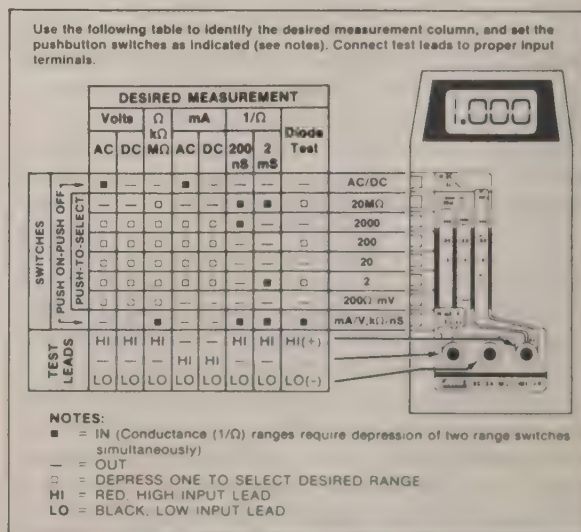

Figure 2-6. Selecting a Function and Range
- With reference to Figure 2-6, set the range and function switches for the desired measurement.
- Connect the test leads to the appropriate input terminals. See Figure 2-6.